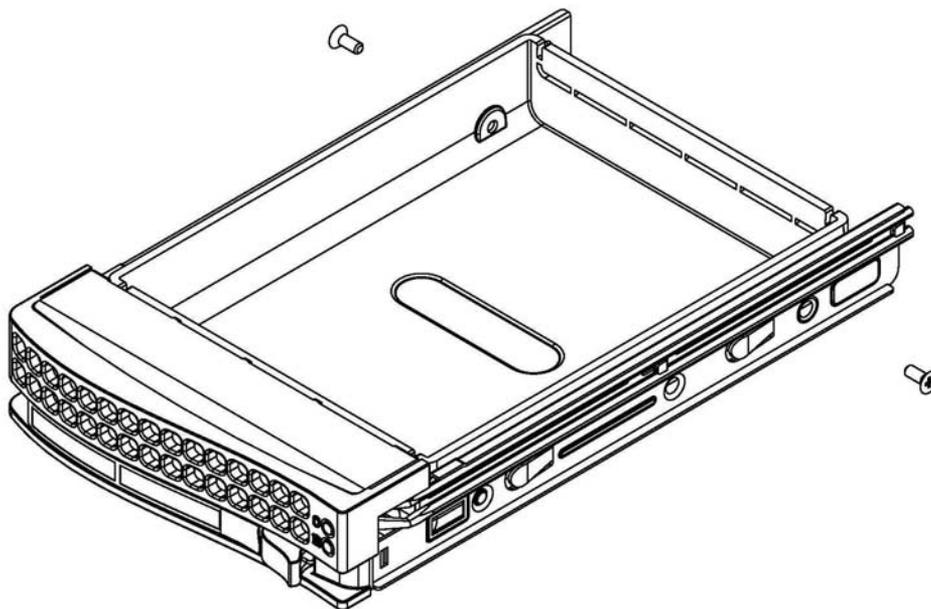
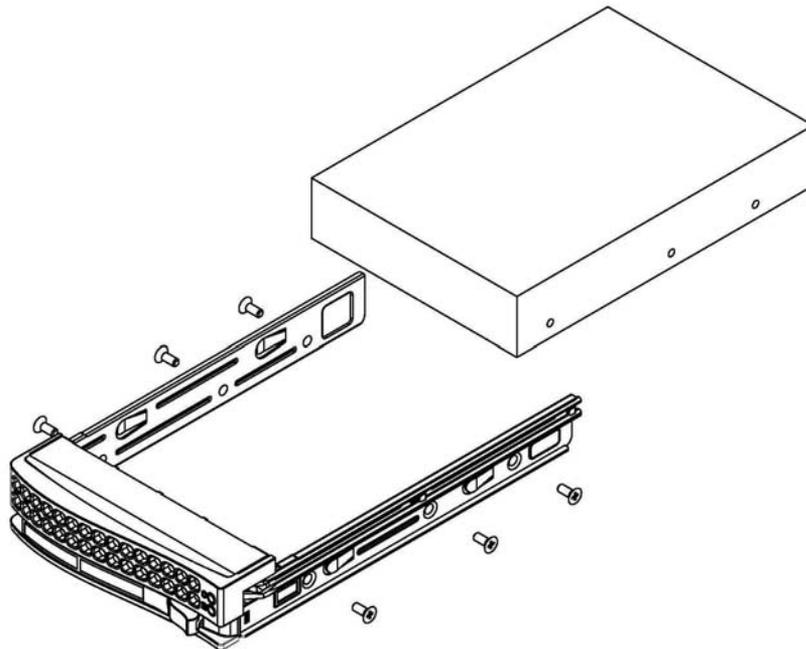

Figure 5-6 Removing a Dummy Drive
Figure 5-7 Mounting a Disk into a Drive Carrier
See Figure 5-6 and Figure 5-7.
2. Slide the hard drive into the carrier with the printed circuit board side facing down (see Figure 5-7).
4. Secure the hard drive using all six screws (see Figure 5-7).